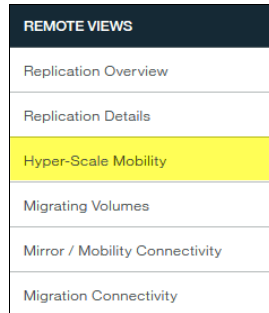

Figure 7-11 Remote Views: Hyper-Scale Mobility
- By opening a new tab and selecting **Hyper-Scale Mobility**, as shown in Figure 7-11, the source and destination volumes can be seen for the newly created migration relationship, as shown in Figure 7-12.